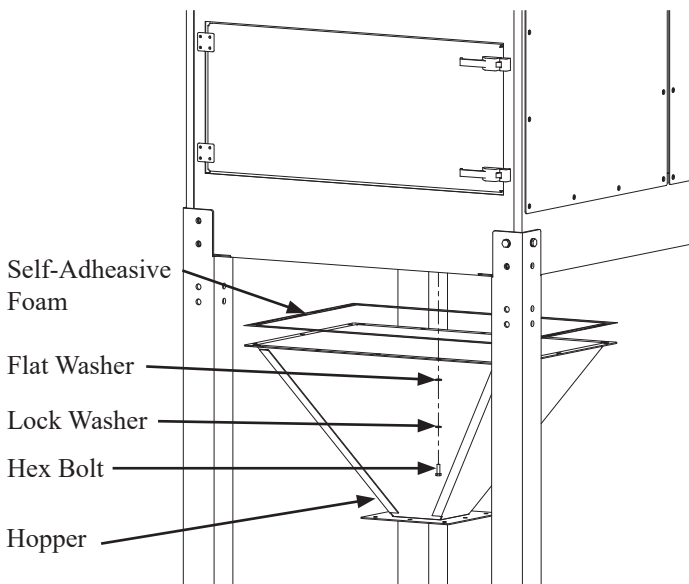

FIGURE 7
1. Apply self-adhesive foam to the bolt hole flange on the hopper (Figure 7).